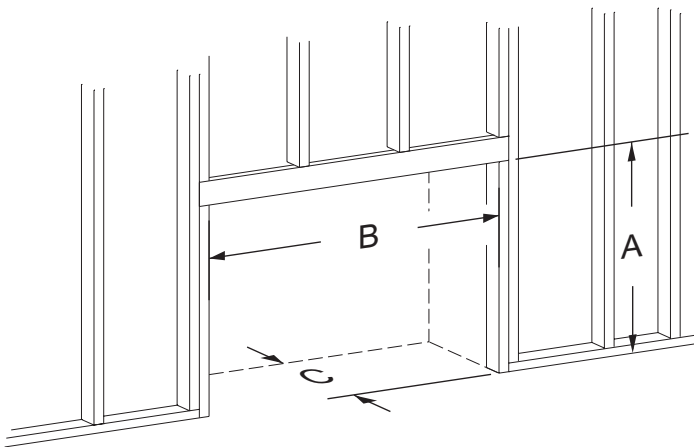

Figure 44 - Rough Opening for Installing in Wall
- Use dimensions shown in **Figure 44** for a conventional rough opening.
| TABLE 4 - FRAMING DIMENSIONS (in inches) FOR FIGURES 44 - 46 | | | | | | |